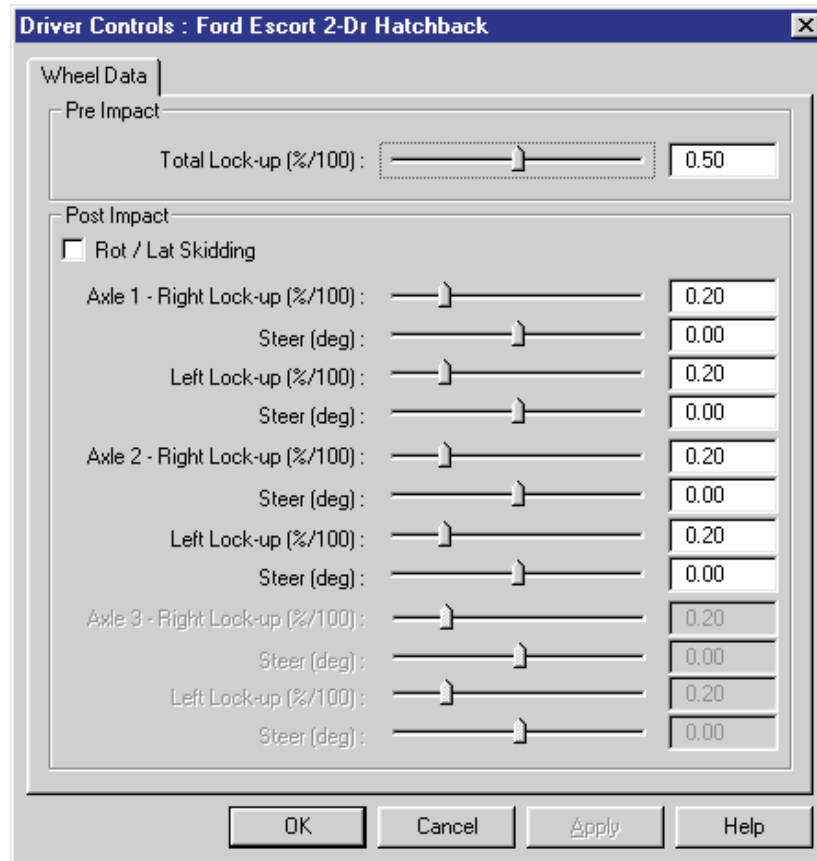

Figure 5-8 Wheel Data dialog for the Ford Escort.
- The *Wheel Data* page is displayed for the Ford Escort (Figure 5-8).